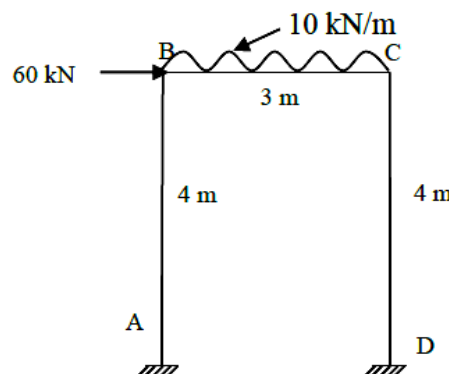

Fig.3
- 3 a) Derive the Clapeyron's theorem of three moments. (7)
b) Analyse the frame shown in fig.3 by slope deflection method and draw the BMD. (8)